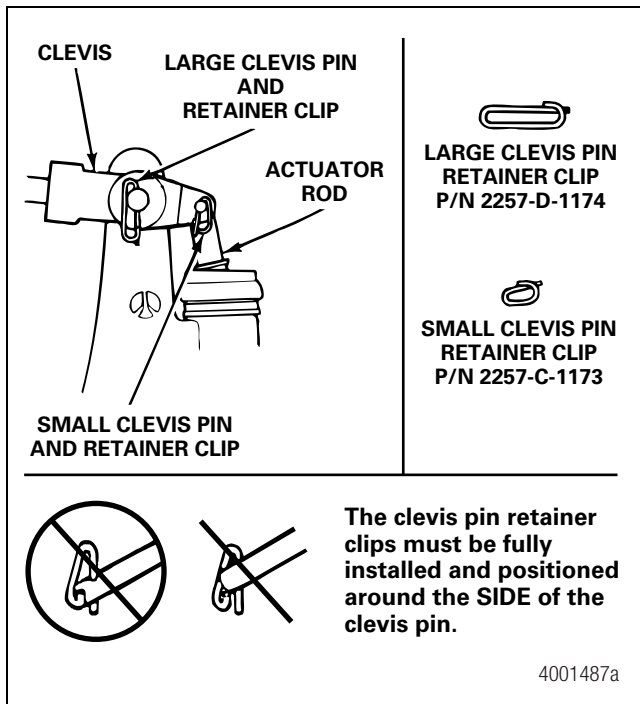

Figure 8
2. Install new clevis pin retainer clips or cotter pins to secure the clevis pins. Retainer clips must be fully installed and positioned around the side of the clevis pin. Figure 8.